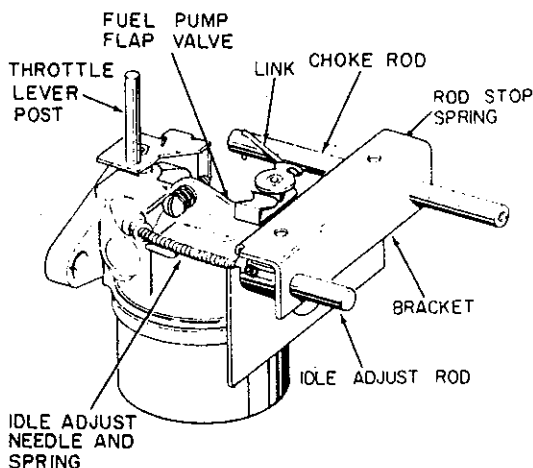

Figure 35
- A. Install idle adjustment rod into bracket, then screw setscrew into the rod a few turns (Figures 35 and 36).
- B. Position the choke rod spring extended end on the idle adjustment rod and align the springs with the choke rod holes in the bracket. Press the choke rod through the bracket and spring with link attaching hole toward the carburetor side (Figure 35).